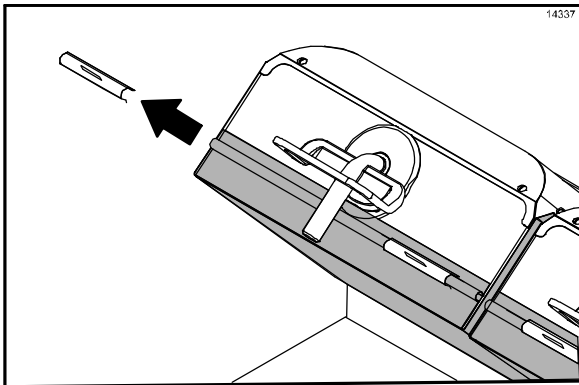

Figure 44
12. Remove the release sheet locking clips, the bars, and the upper and lower release sheets. Wash and rinse the clips and bars in the 3-compartment sink. If necessary, soak them in a hot solution of **SolidSense APSC** to remove carbon accumulation. (See Figure 44.)